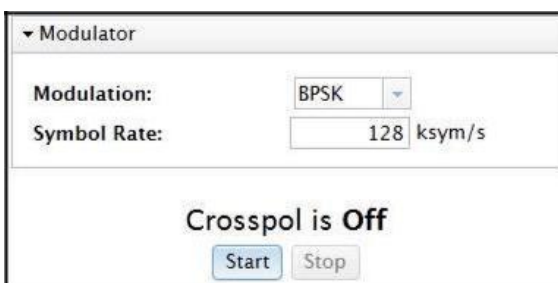

Figure 52. Web iSite: Transmitting a Modulated Carrier
- a. In the **Modulation** field of the **Modulator** section, select **BPSK** (Figure 52).